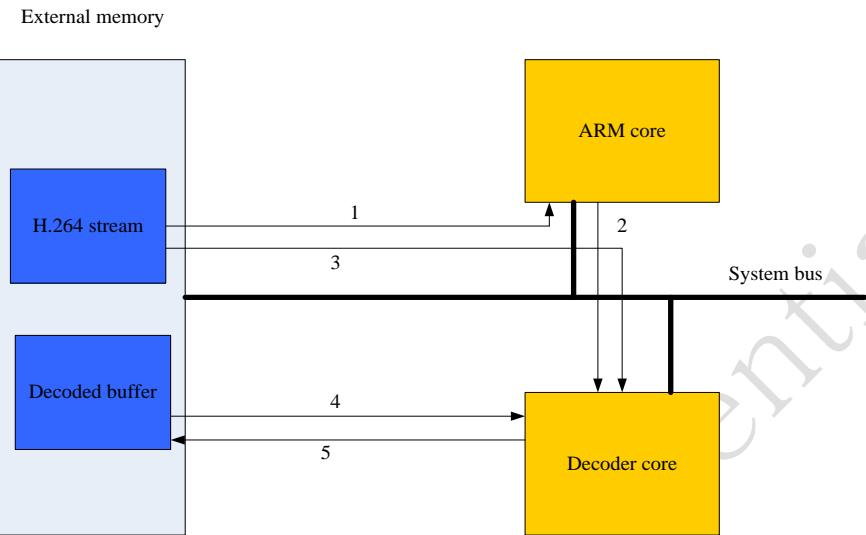

Fig.17-4 Dataflow of HW performs entropy decoding in video decoder
The dataflow of HW performs entropy decoding is as Fig.17-4 shown. The decoder software (SW) starts decoding the first picture by parsing the stream headers (1). Software then setups the hardware control registers (picture size, stream start address etc.) and enables the hardware (2). Hardware decodes the picture by reading stream (3) and the reference pictures (required for inter picture decoding)(4) from the external memory. Hardware writes the decoded output picture to memory one macroblock at a time (5). When the picture has been fully decoded or the hardware has run out of stream data, it gives an interrupt with a proper status flag and provides stream and address for software to continue and returns to initial state.